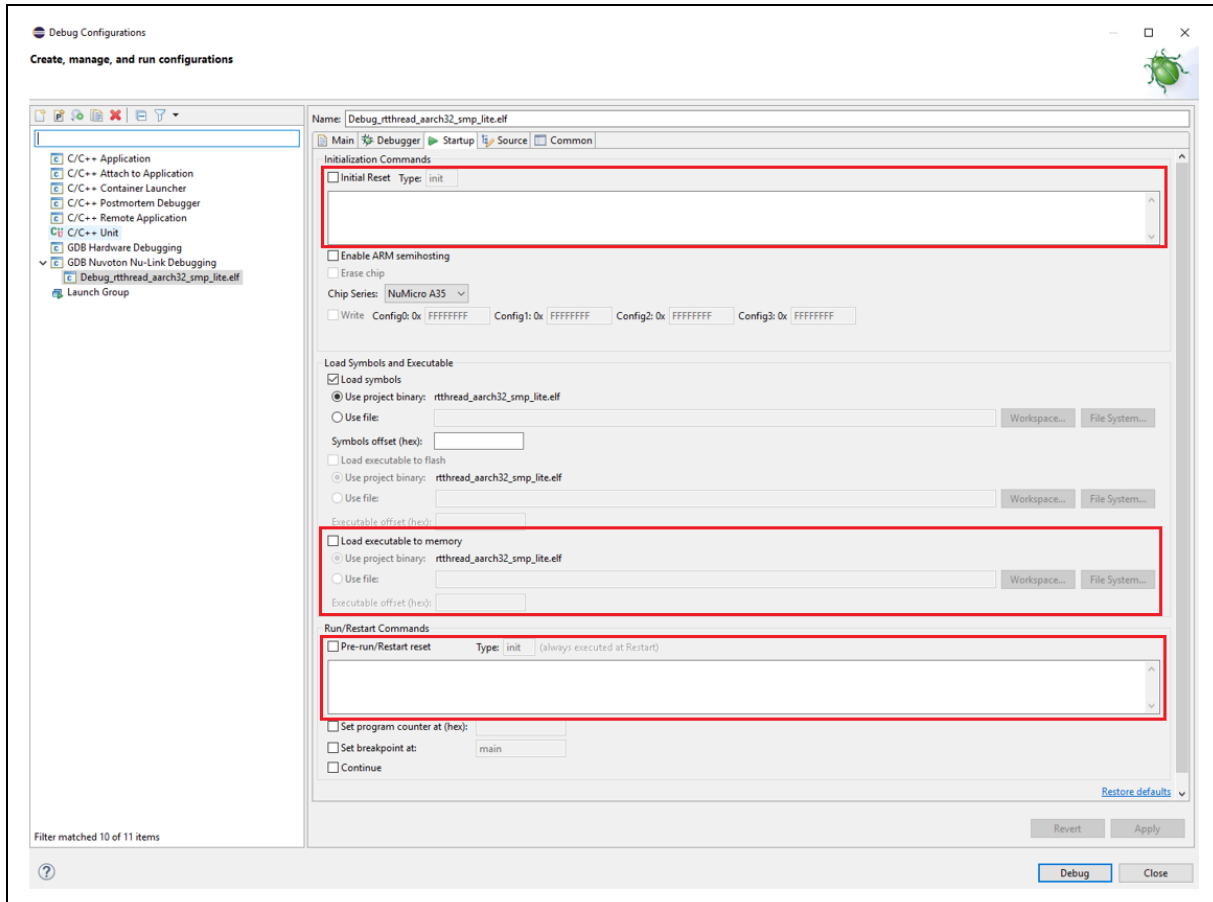

Figure 4-42 The Second Time to Enter the Debug Mode Settings
11. Uncheck the reset settings and re-enter debug mode (referring to Figure 4-42).